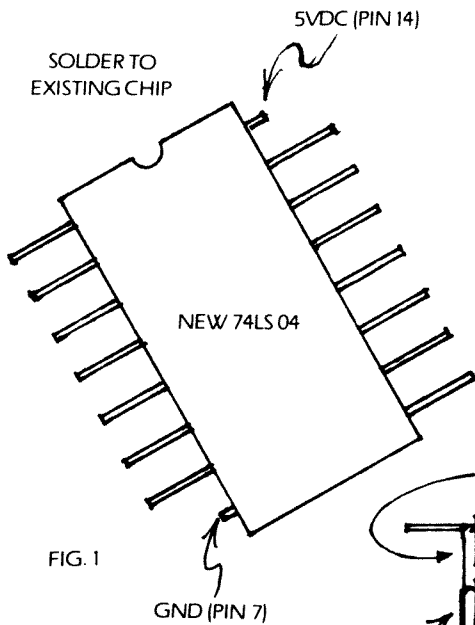
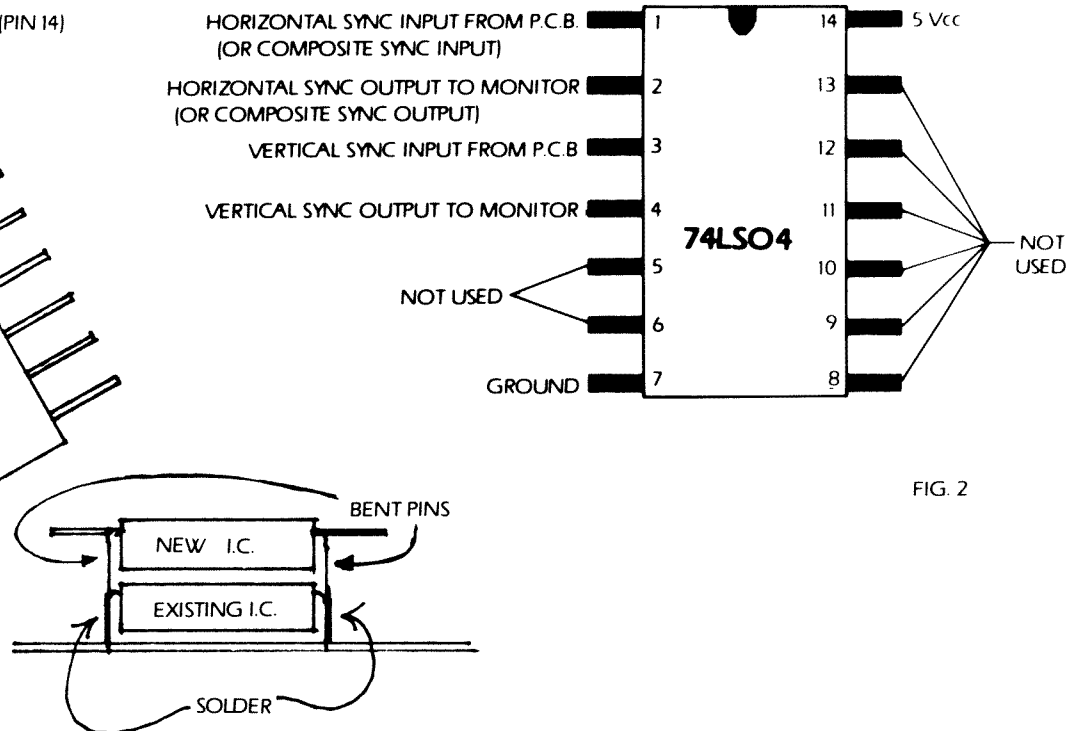

FIG. 1
FIG. 2
**CURE 1:** Install a simple one I.C. Circuit on your logic board. This I.C. may be "piggybacked" on to another 7404 series chip for power by bending up all but the two power pins so that they are parallel to the top surface of the new I.C. and then connecting the power pins only to the existing chip (SEE FIG. 1). Next connect the sync wires as shown in FIG. 2. (NOTE: Figure 2 shows a hookup for either **composite** or separate syncs.)